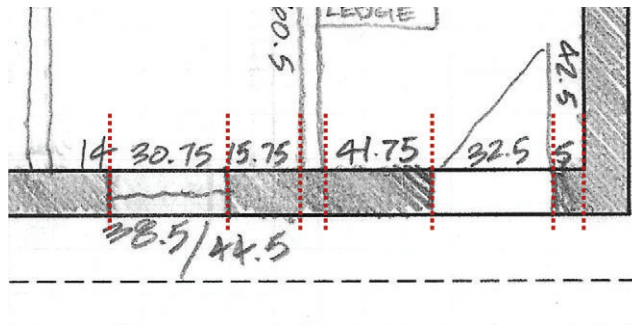

Figure 17.17 Dimensions running along the walls
- ☑ Avoid using dimension lines. Record wall, window, and door dimensions within the building drawing oriented in line with the dimensions they define (Figure 17.17).